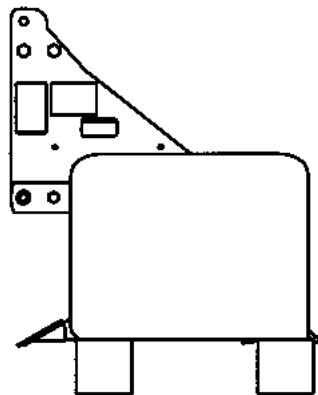

Figure 2 Box Blade Blocked Up
- Block equipment securely for storage (see Figure 2).
1. Place two 6" x 6" (15 x 15 cm) blocks under each side frame of the box blade as shown in Figure 2.
1. Block up machine by placing two 6" x 6" (15 x 15 cm) blocks under each side-frame of the box blade (see Figure 2).
1. Place two 6" x 6" (15 x 15 cm) blocks under each side-frame of the box blade (see Figure 2).